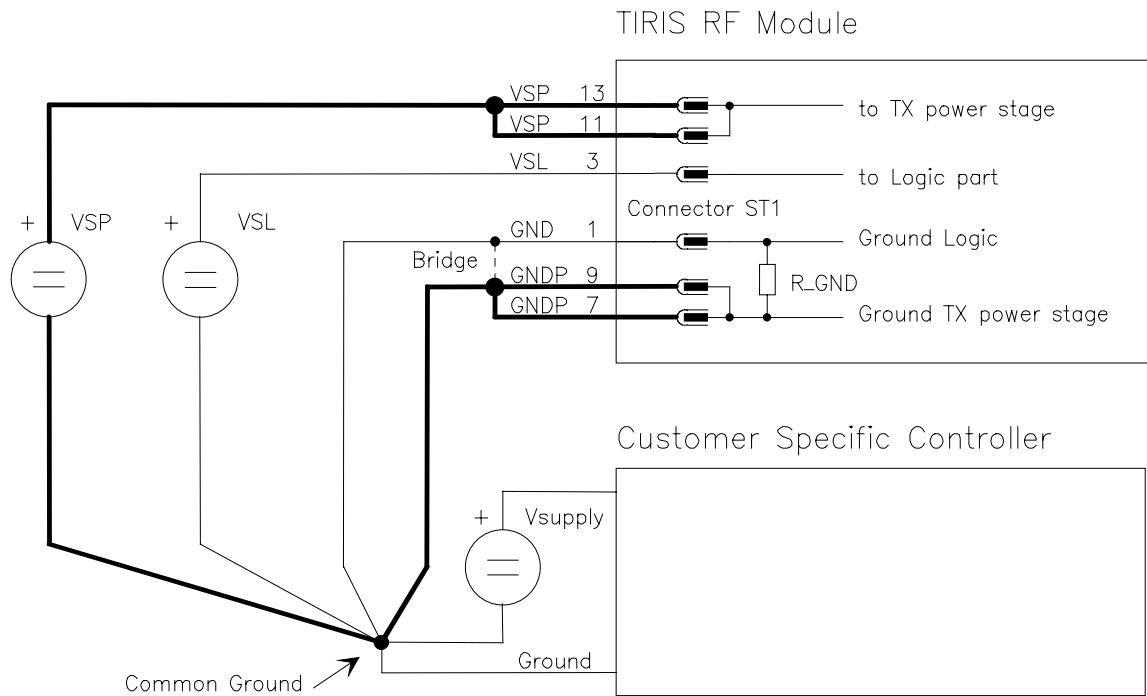

Figure 15: External Ground Connection (GND to GNDP)
1. Possibly high resistive GNDP pins would cause a voltage drop across these connector pins, because of the high transmitter power stage current (this does not apply to the supply pins of the logic part). If the grounds were connected to each other internally, this would also lift the internal logic ground and cause logic level compatibility problems with the Control Module (see figure 15). This is avoided by connecting the grounds GND and GNDP externally.
2. In order to provide higher flexibility with long supply lines. Long VSP supply lines between the Power RFM and the Control Module cause a voltage drop across this supply line (again because of the high transmitter power stage supply current). This voltage drop would also lift the logic ground and cause logic level compatibility problems with the Control Module. This can again be avoided by connecting the grounds externally in any of three different ways (see figure 15):
- a. For cable lengths of up to 0.5 m between the Power RFM and Control Module, the RFM ground pins GND and GNDP must be connected at the Control Module, as shown in figure 15. Here the grounds for the VSP, VSL and the Control Module supply are all connected together at the common ground.
- b. For cable length between 0.5 m and 2 m, the RFM ground pins GND and GNDP must be connected together at the Control Module in order to avoid logic level compatibility problems caused by the voltage drop across the VSP supply lines (see figure 15).
In this case, to avoid problems with difference voltages between GND and GNDP, these pins must always be connected directly at the Power RFM. A shorting bridge is necessary as close as possible to the Power RFM for this purpose, as shown in figure 15.